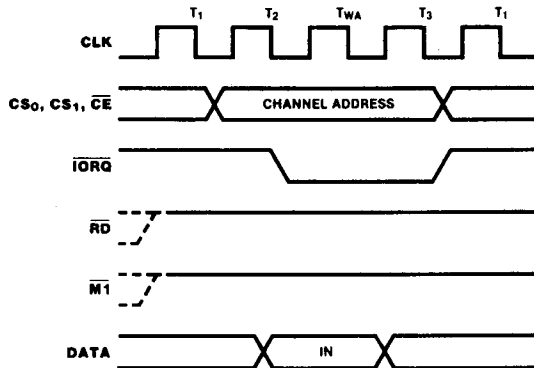

Figure 10. Write Cycle Timing
**Write Cycle Timing.** Figure 10 shows write cycle timing for loading control, time constant, or vector words.